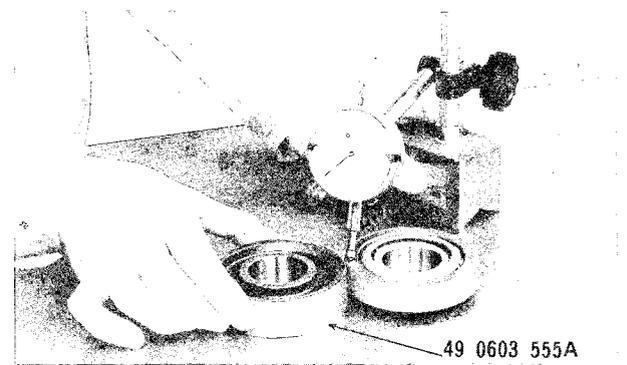

Fig. 9-14 Measuring bearing height
8. Place the bearing model and the rear pinion bearing on the surface plate and compare their heights as shown in Fig. 9-14.